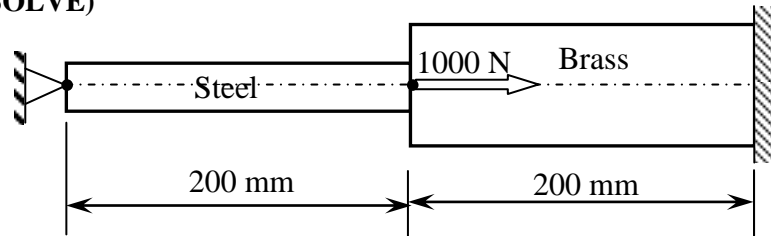

Fig. Q 3B
- 3B. Consider the bar shown in Fig. Q 3B. There is an increase in temperature of 60°C for both the materials. A point load of 1000N is acting at the interface of the two materials, as shown in the Fig. Use the data given in Table Q 3B. Apply FEM to determine: